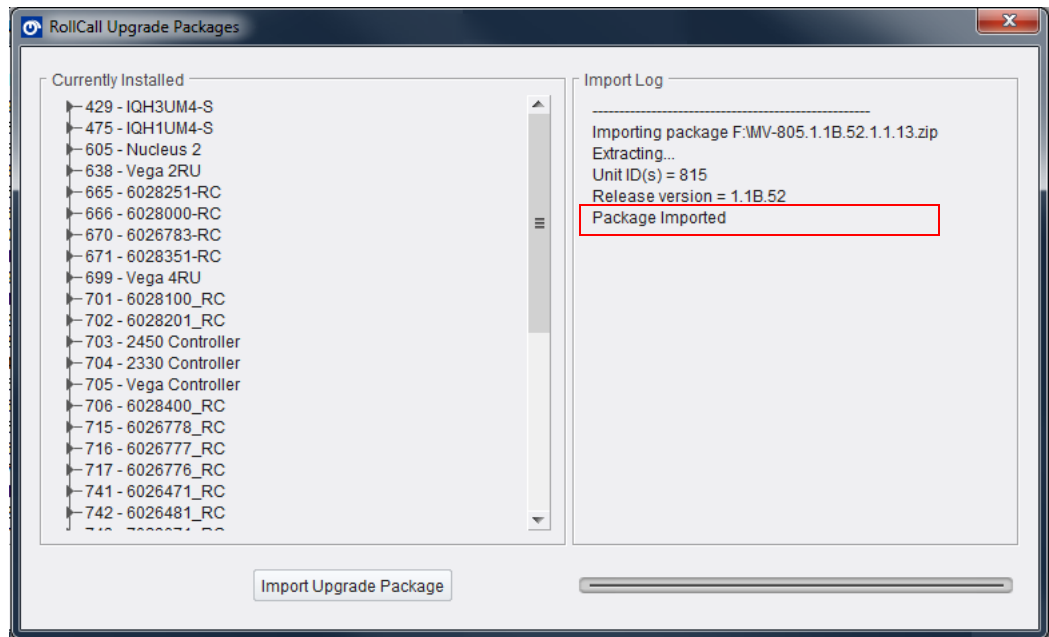

Figure 105 Import Log Pane - Package Imported
- Wait for the “Package imported” message in the Import Log pane. See Figure 105.